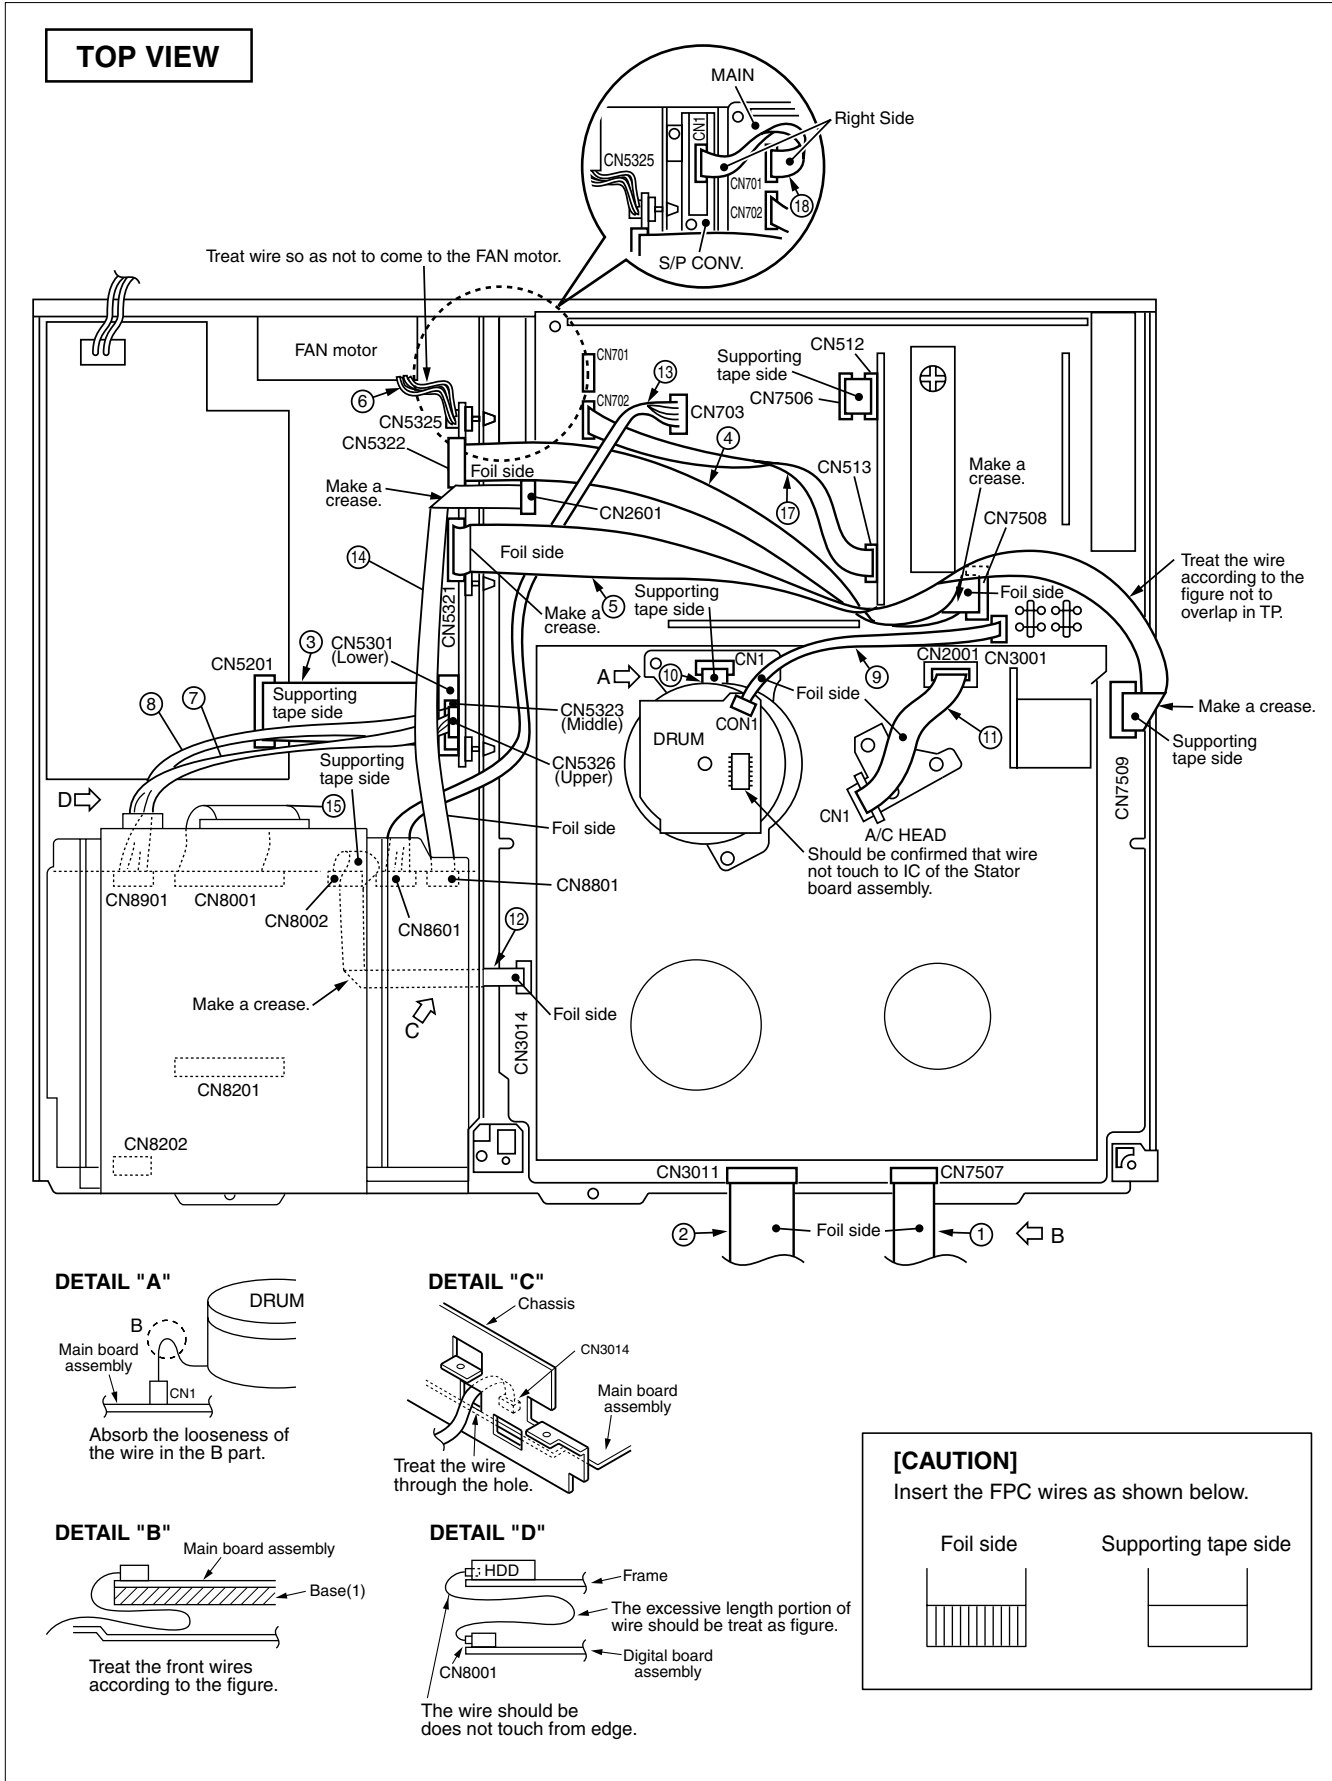

Fig. 1-10-1 Top view
- *The symbol numbers in the following table are special numbers indicating the service positions. They do not coincide with the symbol numbers used in Fig. 1-10-1 (1-10) or Table 1-10-1 (1-11).*